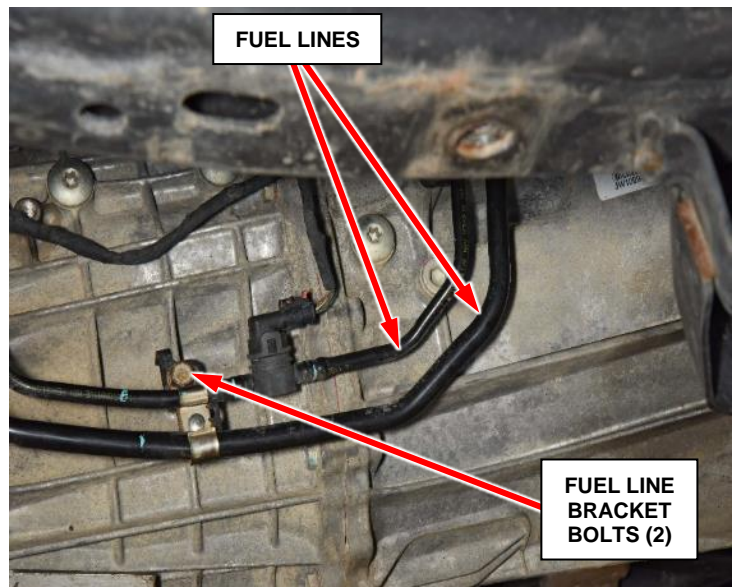

Figure 13 – Fuel Lines
31. Remove the bolts attaching the fuel line bracket to the transmission (Figure 13).